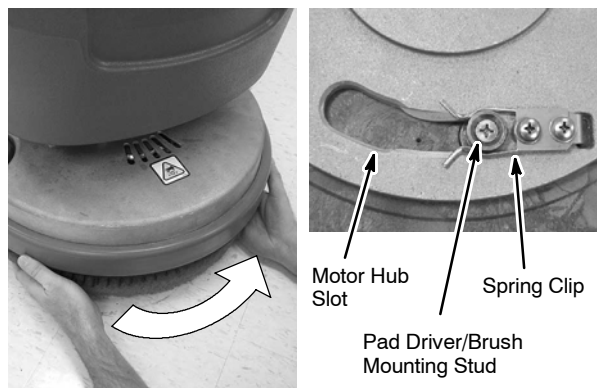
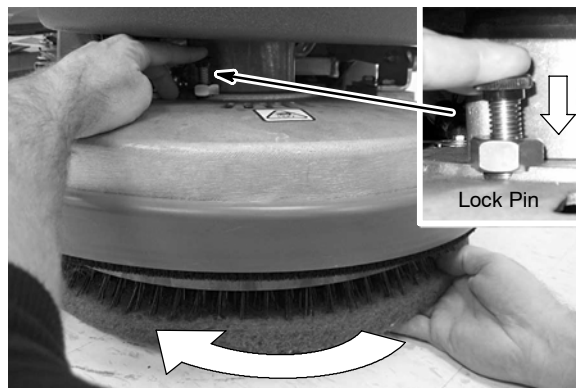

FIG. 9
FIG. 10
5. Align the pad driver/brush mounting studs into the motor hub slots and turn the pad driver/brush counter-clockwise until stud is fully seated in spring clip (Figure 9). If necessary, press down on the motor hub lock pin to lock motor hub in place (Figure 10).
6. To remove the pad driver/ brush, press down on the motor hub lock pin and turn the pad driver/brush clockwise (Figure 10).